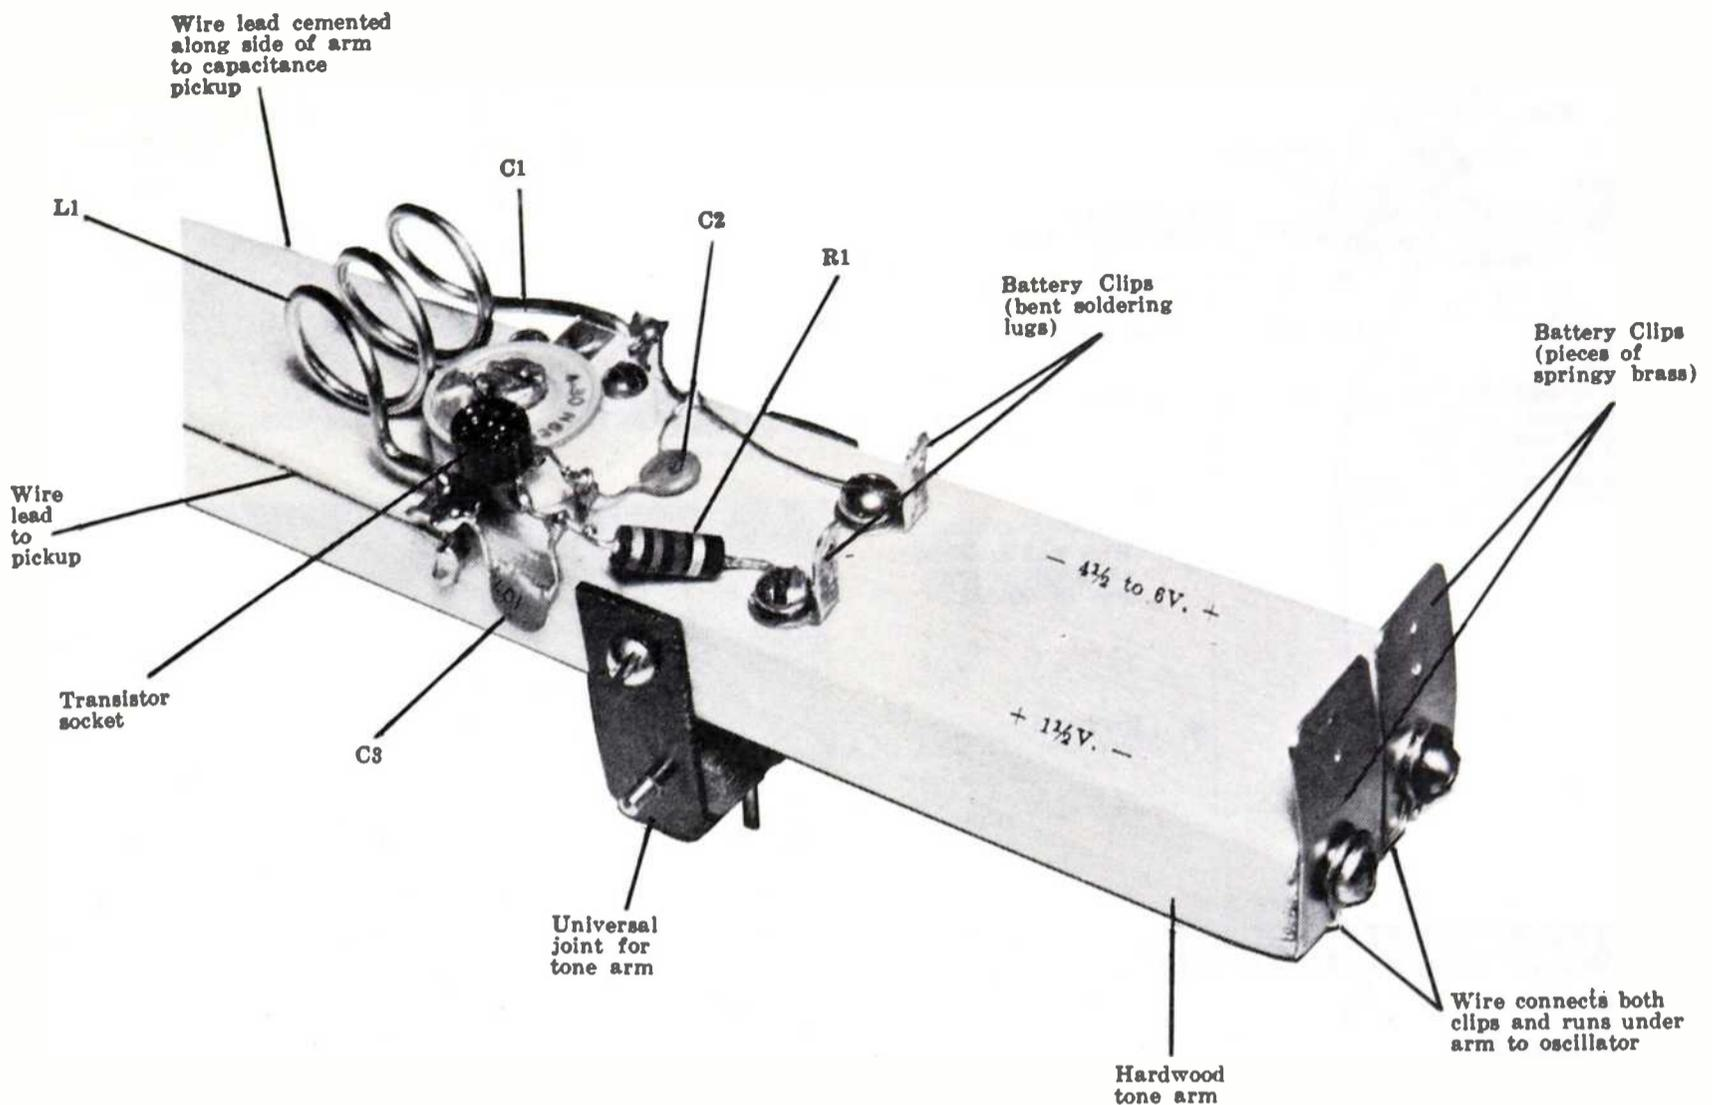

Figure 7
**Oscillator and Battery Clips:** Figure 6 is the schematic diagram for the low-power high-frequency transistor oscillator, showing how the capacitance pickup is connected across the tuned circuit (tank) of the oscillator. Figure 7 shows how the oscillator parts are mounted and wired on top of the wood arm, and how the battery clips are mounted and wired to the oscillator. The variable-trimmer capacitor is mounted with two wood screws, and the ends of the coil are soldered into the lugs on the capacitor. All wire leads should be soldered, be short and direct, and as rigid as possible to reduce microphonic effects. Parts and wire leads can be cemented securely to the tone arm with Duco cement. The correct polarity for the two batteries should be marked on the wood arm so you don't forget. The writer doesn't use a battery on-off switch (the batteries are removed when finished playing) but there is room on the tone arm for two miniature SPST toggle switches.